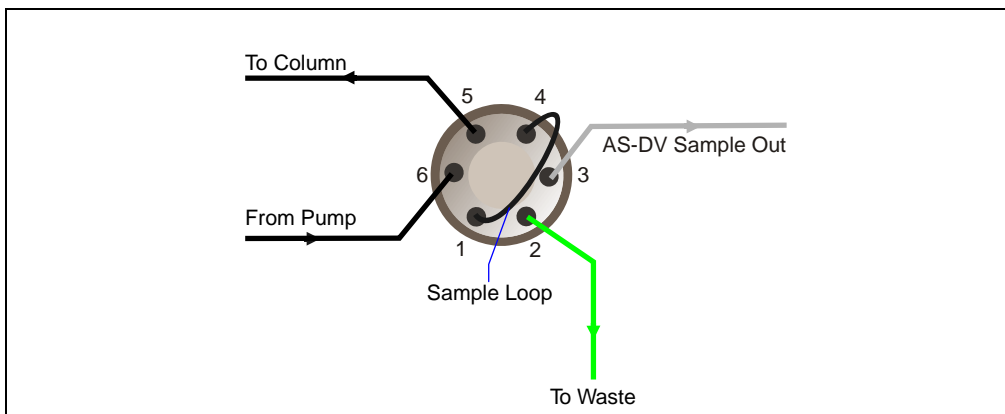

Figure B-5. 6-Port Valve Plumbing for Injection Valve
- Plumbing the 6-port valve as an injection valve (see Figure B-5).
4. To complete the 6-port valve plumbing for injection valve operation, refer to Figure B-5 and to the manual for the IC system.